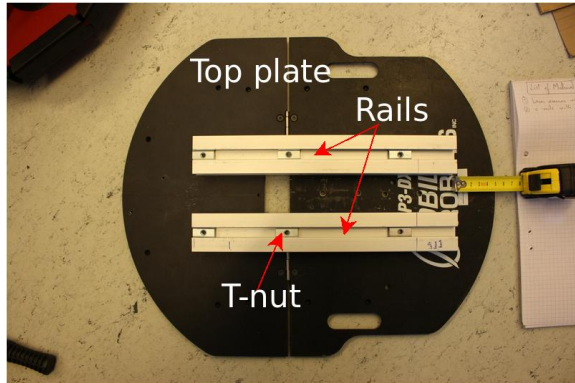

Figure 18: Rails location on plate
7. Now check the relative positions of the beam and rails. The rear end of the rails should be 50mm from the extreme rear point of the top plate (figure 18). The rear end of the vertical